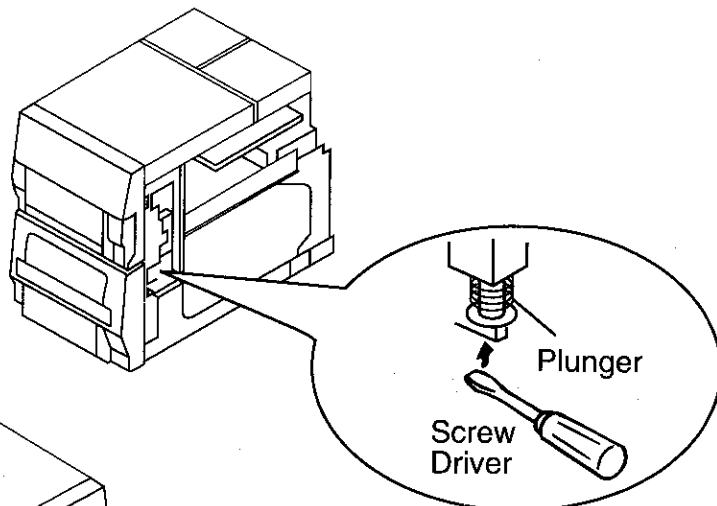

Figure 10-1
2. Push the plunger in the direction shown by the arrow, using a slender screwdriver (3 mm dia., 130 mm long). (It will click.) (Fig. 10-1)